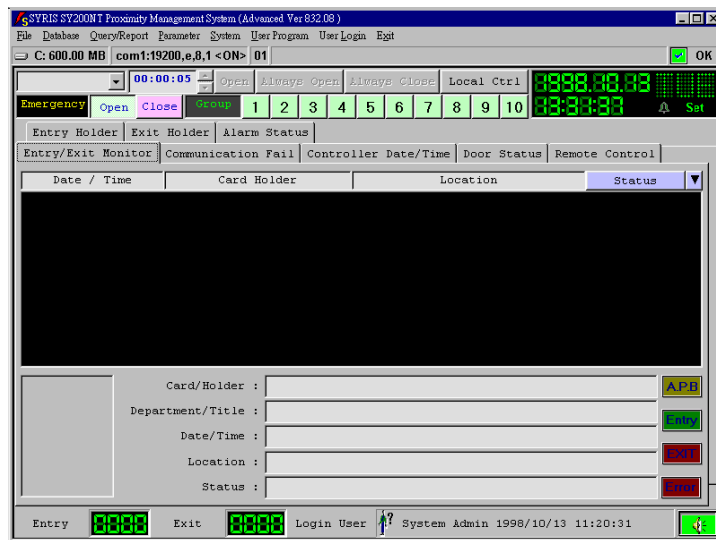

Fig.2-2 System Master Menu
4. Awaits for master menu to be display (Fig.2-2)